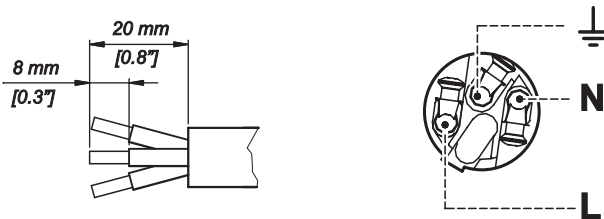

Figure 8: Cable connector wiring
2. Prepare the power cable and use a screwdriver to clamp the wires in the appropriate terminals in the insert as shown in Figure 8.